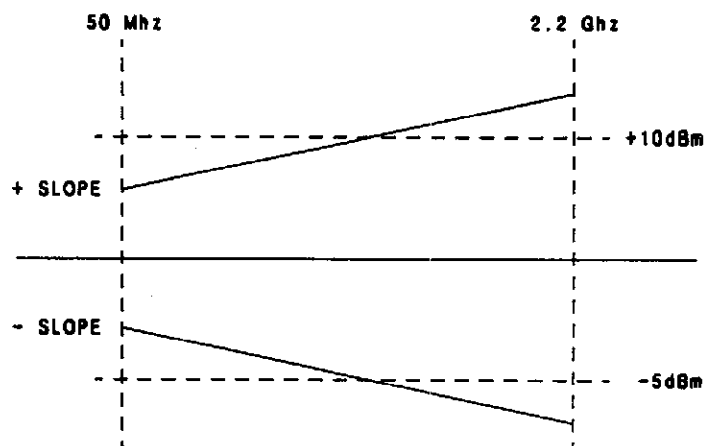

Figure 5-36b. 0 SLOPE Adjustment
9. Adjust A4R1 (0 SLOPE) to get the same but opposite difference between (50 MHz and 2.2 GHz at -5 dB) and (50 MHz and 2.2 GHz at $+10$ dB). See Figure 5-36b.